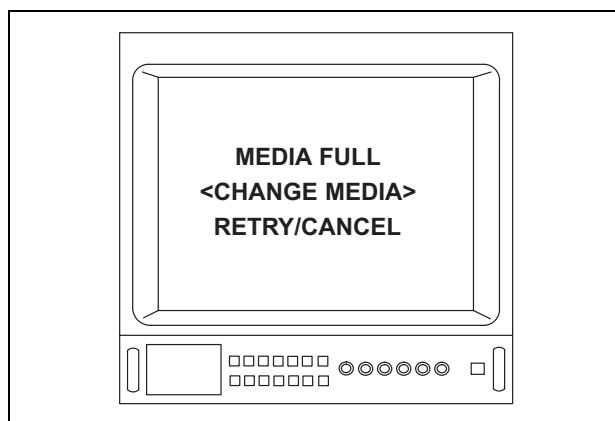

Figure 5.98
- If the amount of free memory on Memory Card is insufficient, the display is as shown on the video monitor in Figure 5.98. In this case, pull out the PC card adapter from this instrument and exchange a Memory Card with an empty card and choose "Retry". When it is not recorded, please reattach the PC card adapter. Please use so as not to fill the capacity of Memory Card. The image of SmartMedia is recommended to be backed up to PC etc., regularly.